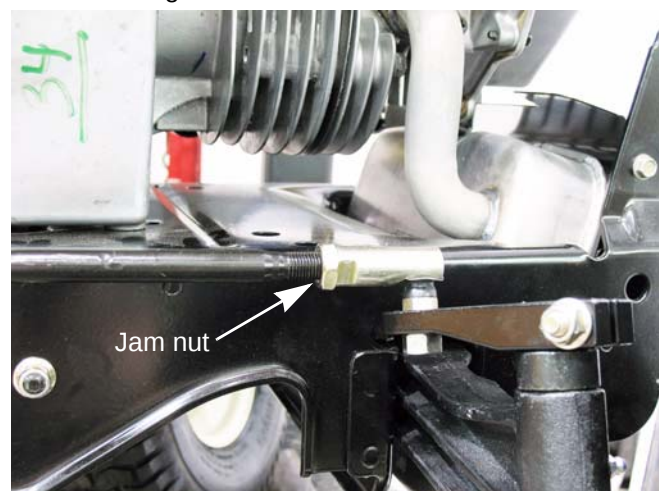

Figure 3.3
8. Loosen the jam nut at the rear of the right ball joint that secures the ball joint to the drag link using a 1/2” wrench and an 11/16” wrench. See Figure 3.3.